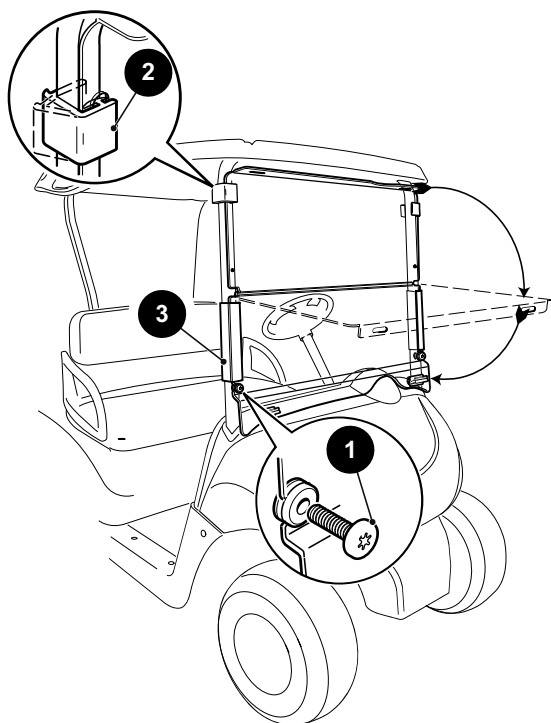

Figure 2 Windshield
1. Remove two screws (1) from the lower portion of the windshield (Figure 2).
2. Release the rubber latches (2) and fold the top portion of the windshield down.
3. Carefully pull the outer edge of the windshield sash (3) forward and slide the flat screw driver into the opening. Pull towards the front of the vehicle separating the sash from the front strut. Repeat for the other side.
4. To reinstall the windshield, hang the windshield on the front strut using the rubber latches (2) on the top portion of the windshield.
6. Install two screws (1) and tighten the screws (1) to the torque value specified below.